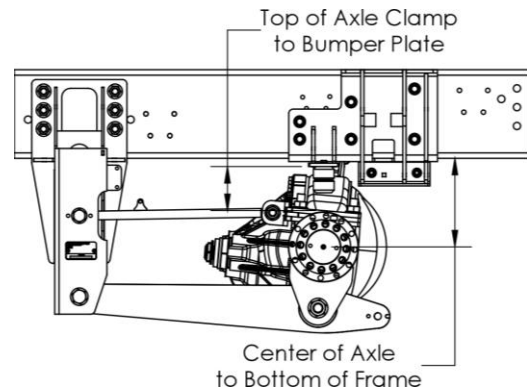
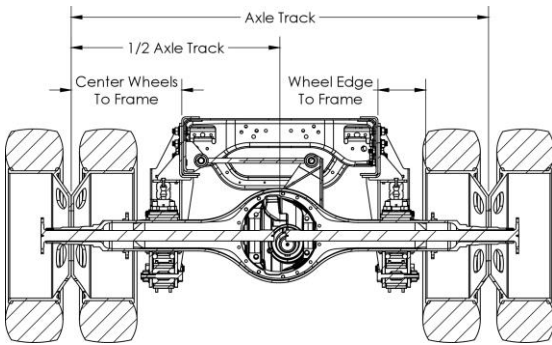

Figure 19. Ride Height for Track Rod Installation.
Figure 20. Checking Axle Center.
3. If axle is center is incorrect, adjust as necessary. Refer to Figure 20 for examples of axle centering, and Figure 19 for correct ride height measurements.